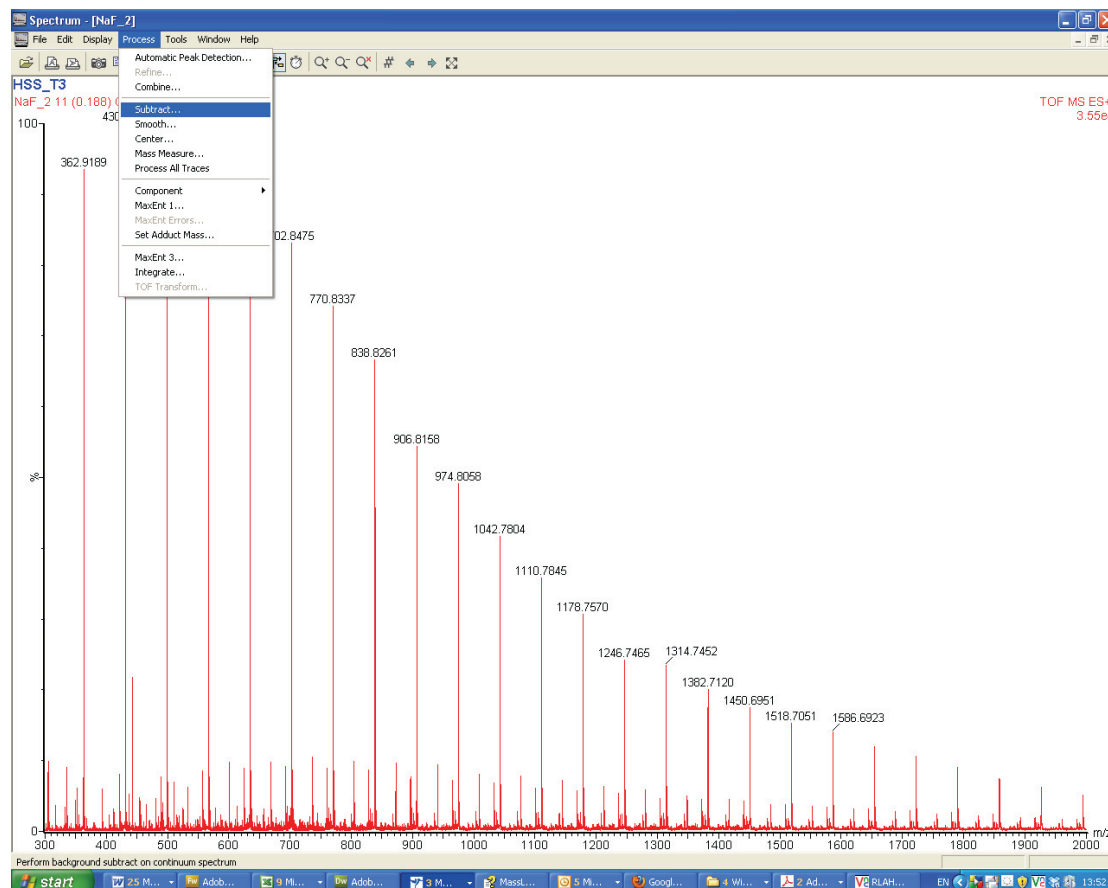

Figure 9: Process mass spectra - subtract, smooth and centre.
- 2.7.4 Open Spectra (sum at least 10 scans) then process and centre the data: Process/subtract/smooth and centre (Figure 9).